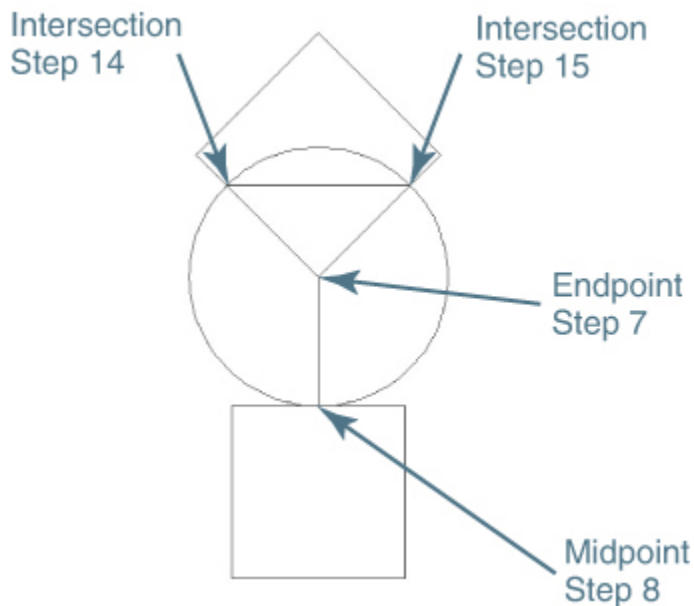

Figure 5-24
Pick a point while the AutoSnap marker is displayed (see Figure 5-24).
- 8** Place your cursor over the middle of the top line of the square on the bottom of the drawing and wait until the **Midpoint** AutoSnap marker and tooltip are displayed. Pick a point while the AutoSnap marker is displayed (see Figure 5-24).
- 14** Place your cursor over the intersection on the left side of the circle and bottom-left angled line of the rotated square and wait until the **Intersection** AutoSnap marker and tooltip are displayed. Pick a point while the AutoSnap marker is displayed (see Figure 5-24).
- 15** Place your cursor over the intersection on the right side of the circle and bottom-right angled line of the rotated square and wait until the **Intersection** AutoSnap marker and tooltip are displayed. Pick a point while the AutoSnap marker is displayed (see Figure 5-24).
- 17** Save your drawing. Your drawing should look like Figure 5-24.